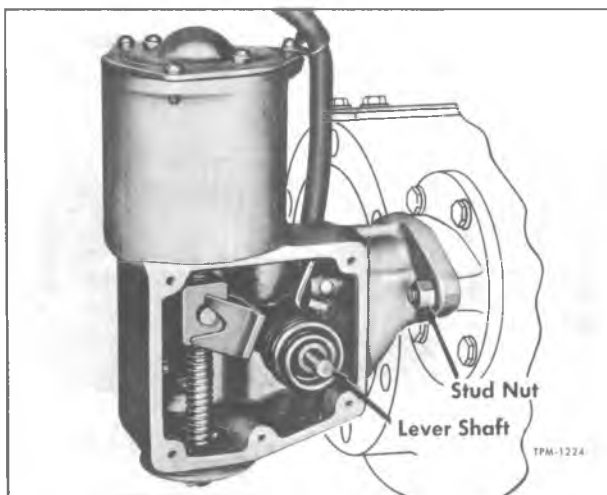

Figure 9—Shift Unit Cover Removed (Rockwell Axles)
2. Loosen shift unit-to-differential carrier stud nuts (fig. 9) to remove preload from shift unit spring.
4. Pull out lever shaft (fig. 9). Disconnect
(Refer to Fig. 9)